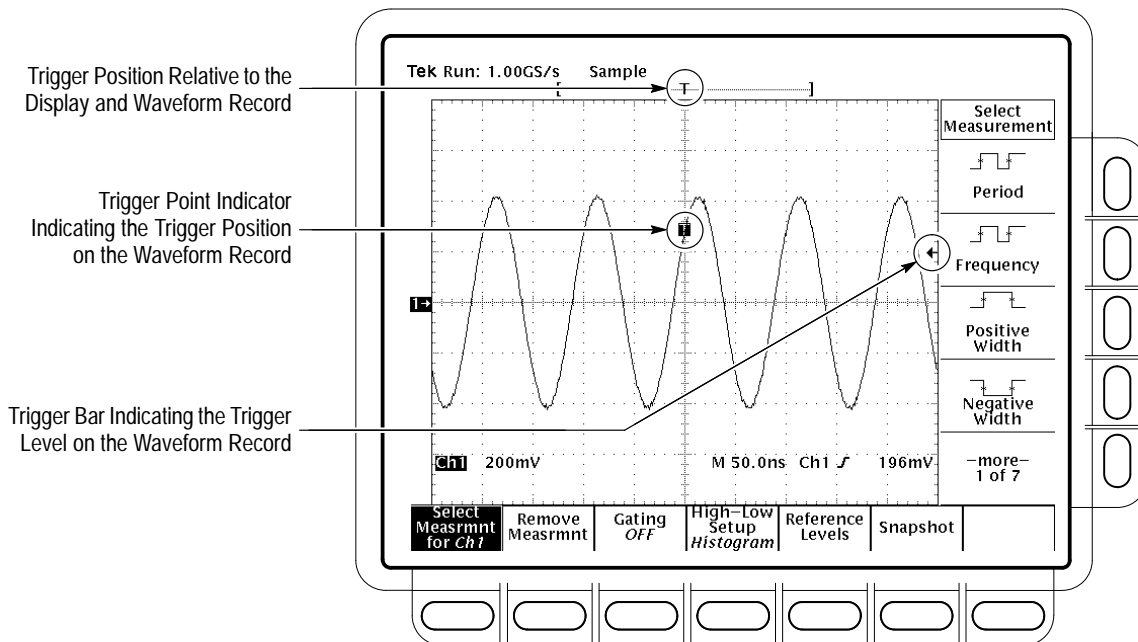

Figure 3-35: Record View, Trigger Position, and Trigger Level Bar Readouts
**Record View.** To determine where the trigger point is located in the waveform record and with respect to the display, check the record view at the top of the display. (See Figure 3-35.)
**Trigger Position and Level Indicators.** To see the trigger point and level on the waveform display, check the graphic indicators *Trigger Position* and *Trigger Bar*. Figure 3-35 shows the trigger point indicator and trigger level bar.